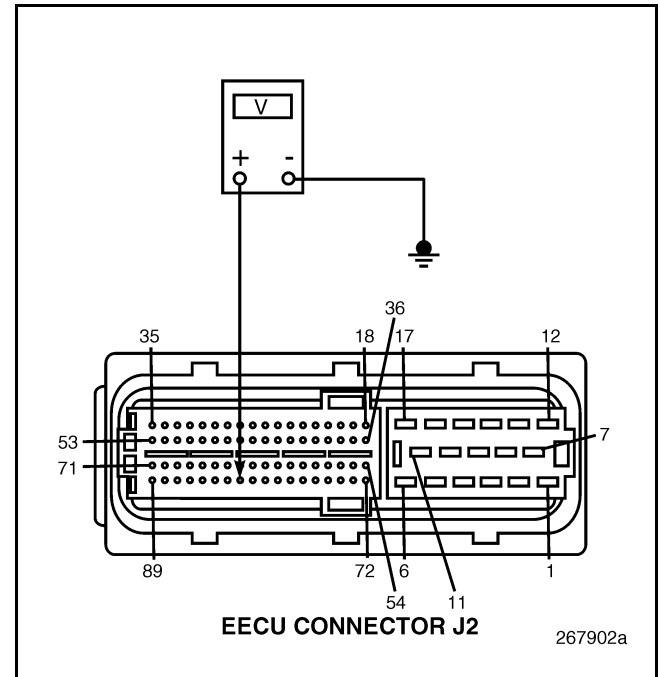

Figure 59
2. Disconnect the Fuel Temperature (FT) Sensor connector.
4. Measure the voltage between EECU connector J2 pin 82 and a good ground (see Figure 59).